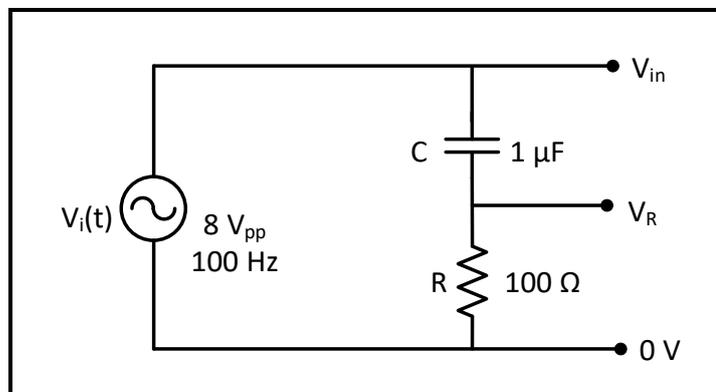

Figure 8.11
1. For the circuit shown in Figure 8.11:
1. Connect the circuit in Figure 8.11, set V_{in} to sinusoidal voltage at $8 V_{PP}$ and $f = 100$ Hz.